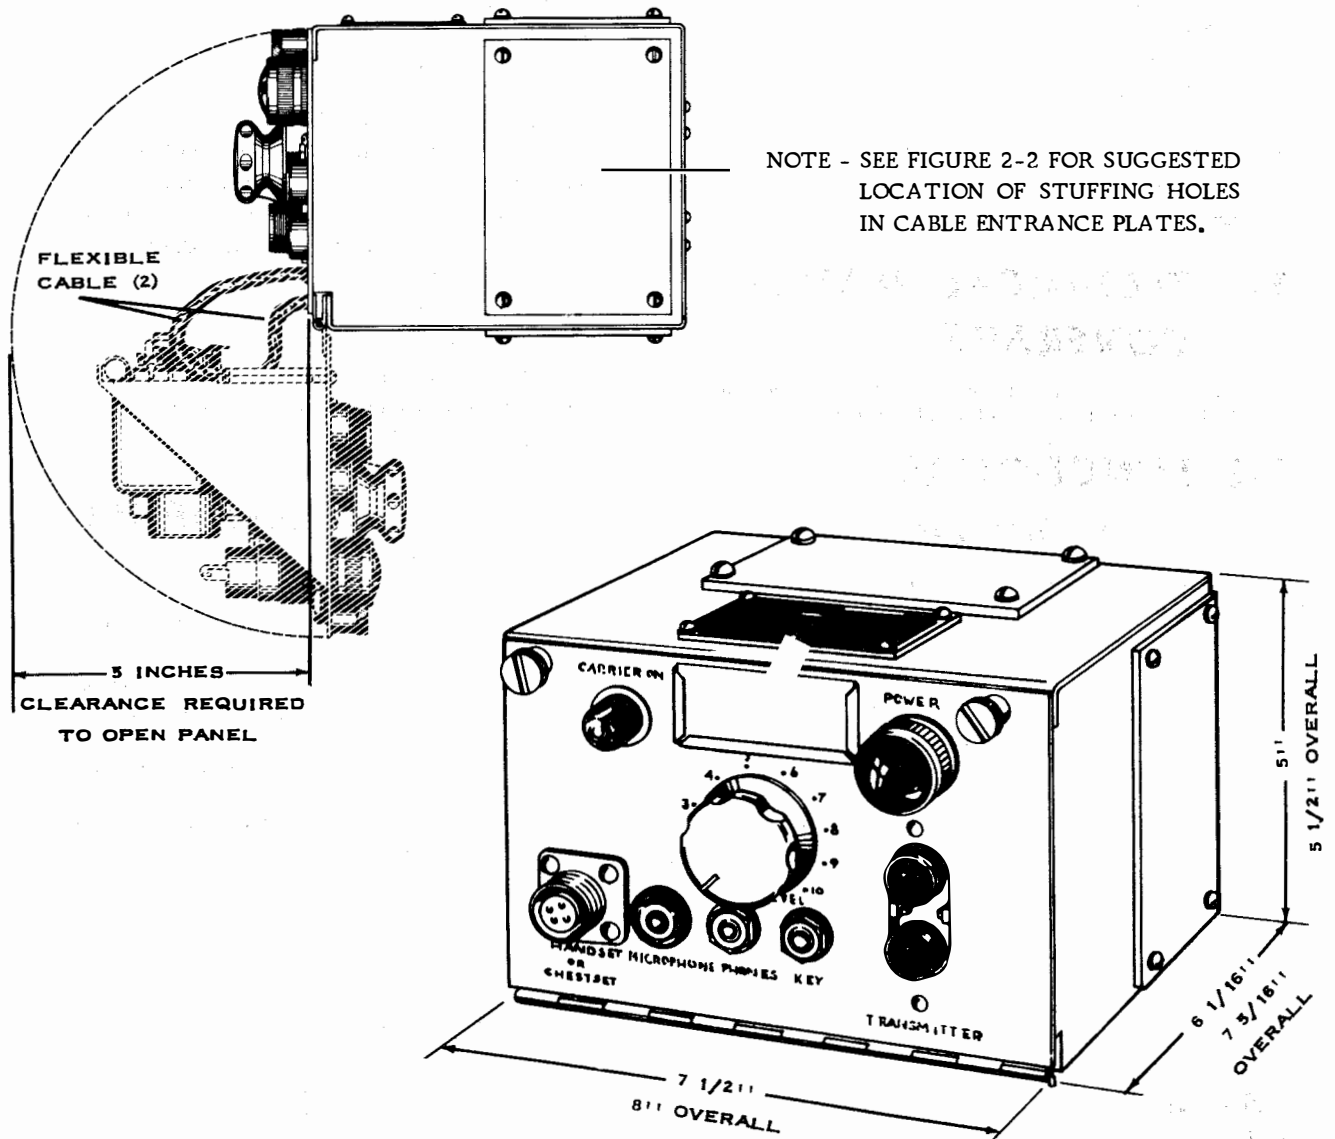

FIGURE 2-1. RADIO SET CONTROL, INSTALLATION DRAWING
b. MOUNTING. The control unit is housed in a steel case which is suitable for mounting on either a vertical or horizontal surface. There are no mounting holes or studs provided on the unit. The individual installation determines the number and location of mounting holes and the installing personnel drill them as necessary. Maintain clearance for the hinged front panel. The clearance will be sufficient to allow the panel to swing about a 180° arc to provide accessibility to the terminal boards on the back of the cabinet. See figure 2-1.